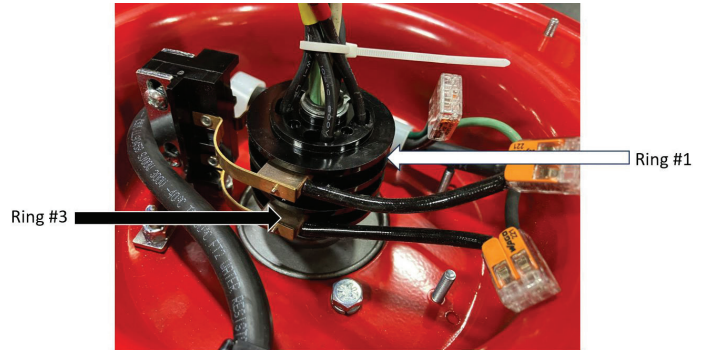

Figure 3: Location of collector ring #1 and #3
9. Using two-port splicing connectors, connect the inlet cord to the collector ring in the following order as shown in figures 3 and 4:
12. Using two 2-port splicing connectors and one 3-port splicing connector, connect the outlet cord to the new collector ring brushes as shown in figures 3 and 4.